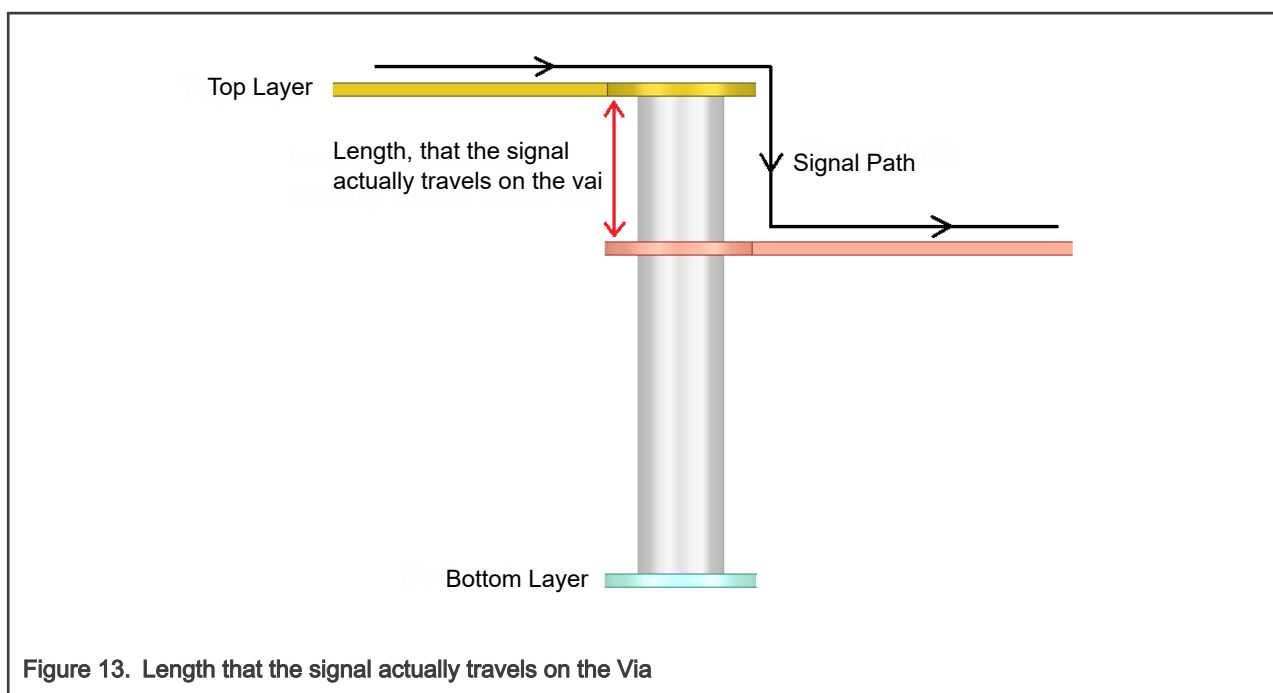

Figure 13. Length that the signal actually travels on the Via
9. Place at least one ground-stitching via within 50 mils of the signal via when switching reference planes to provide a continuous return path and reduce crosstalk. If it is not possible to place enough ground-stitching vias due to space limitation, try to make the length that the signal actually travels on the via as short as possible, as shown in Figure 13.